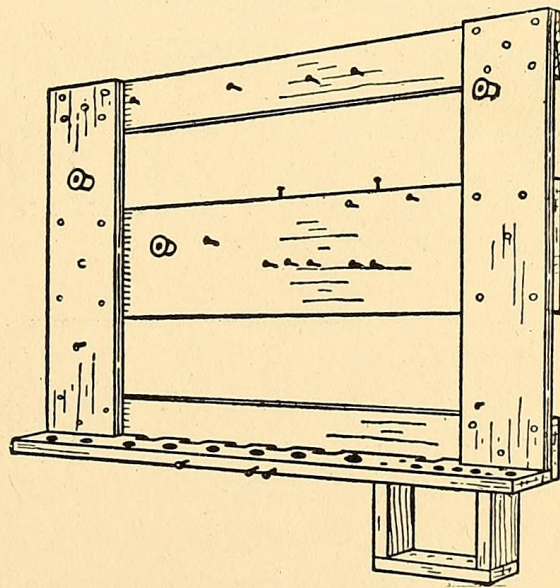

FIG. 46. — A Tool-rack.
**A Tool-rack** on the wall back of the bench is a good arrangement for holding the tools while you are working. In the photograph opposite page 2 is shown such a rack, and Fig. 46 shows how it may be put